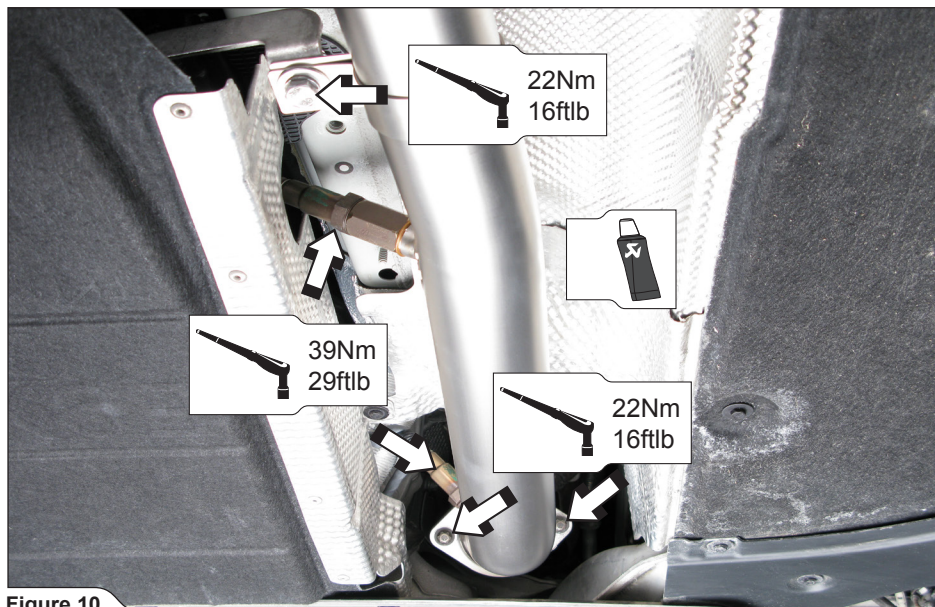

Figure 10
2. Tighten the headers, header's clamps and lambda sensors to a specified torque (**Figure 10**).